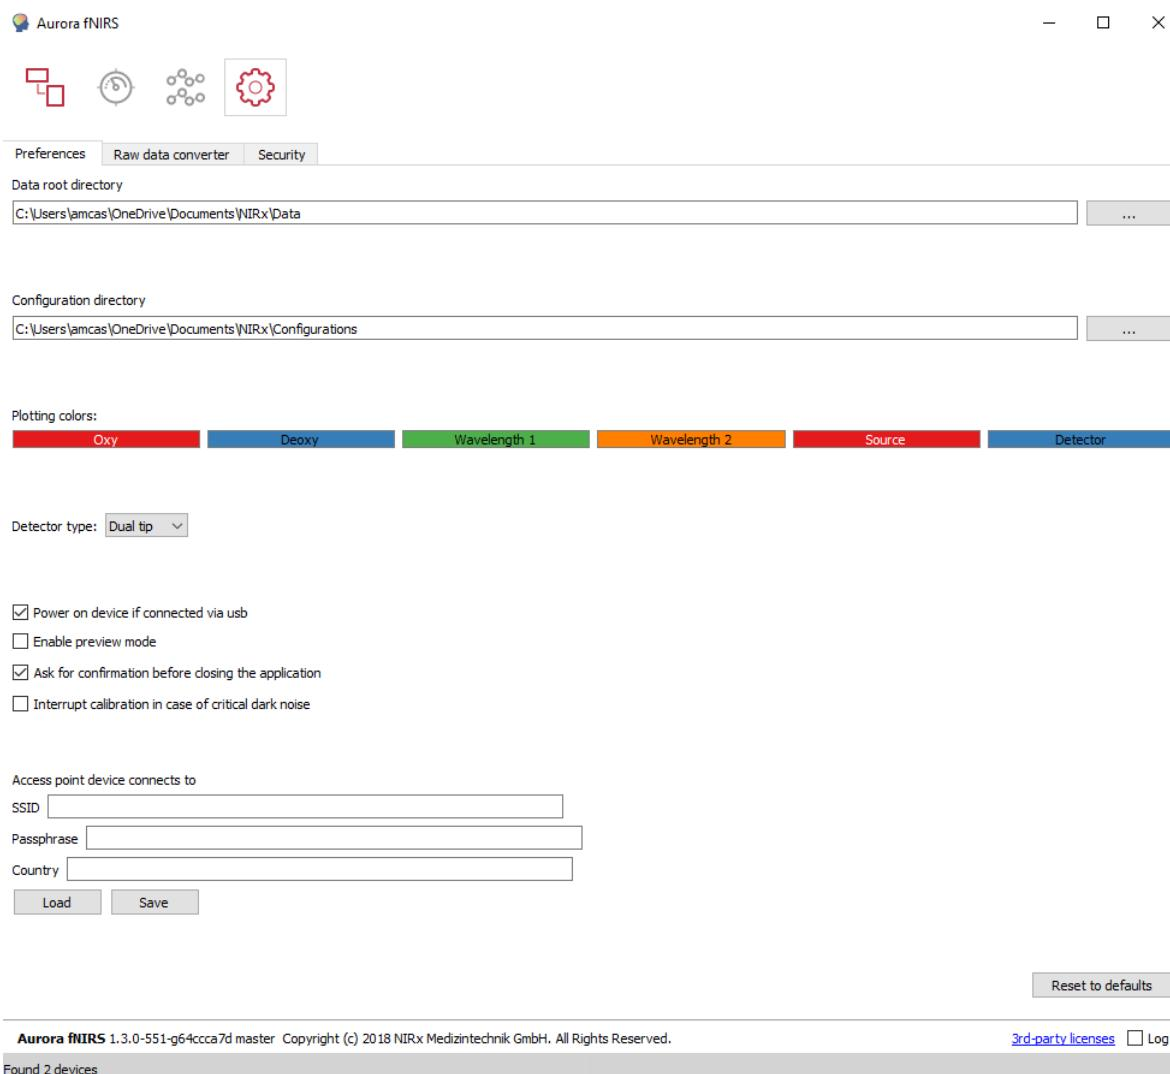

Figure 6.7: The Preferences window
- B. In Aurora fNIRS, under *Settings*, scroll down to access point settings and enter the SSID and password of the network of the access point that will be used (as in figure 6.7).
Ensure that the correct detector type is selected under the *Settings > Preferences* tab (single tip SiPD, dual tip SiPD, or APD). As seen in Figure 6.7, this can be selected in the drop-down menu next to *Detector type* in the middle of the page. The detector type affects the threshold set for dark noise measurements. Choosing incorrect type may lead to misinterpretation of dark noise results.